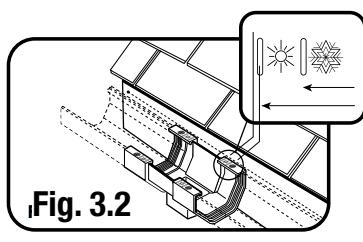

Fig. 3.2
- Position Drop Outlet in desired location and cut gutter to length using temperature marks as guides (Fig 3.2).